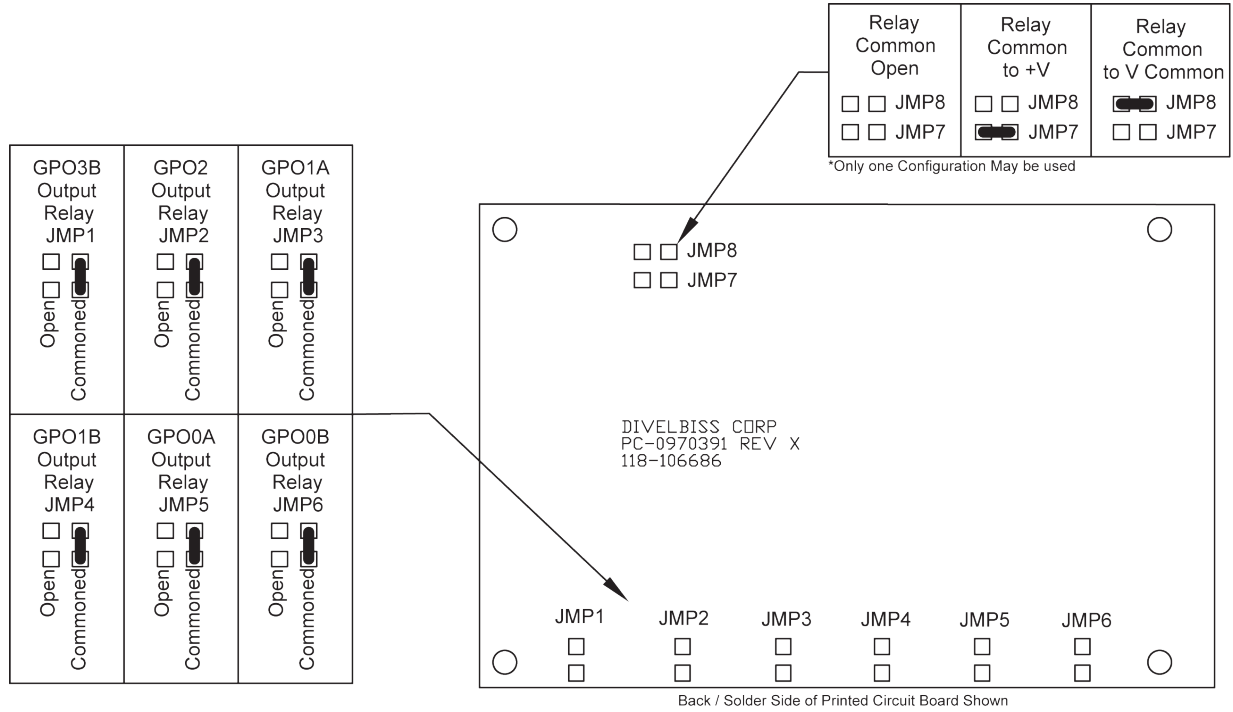
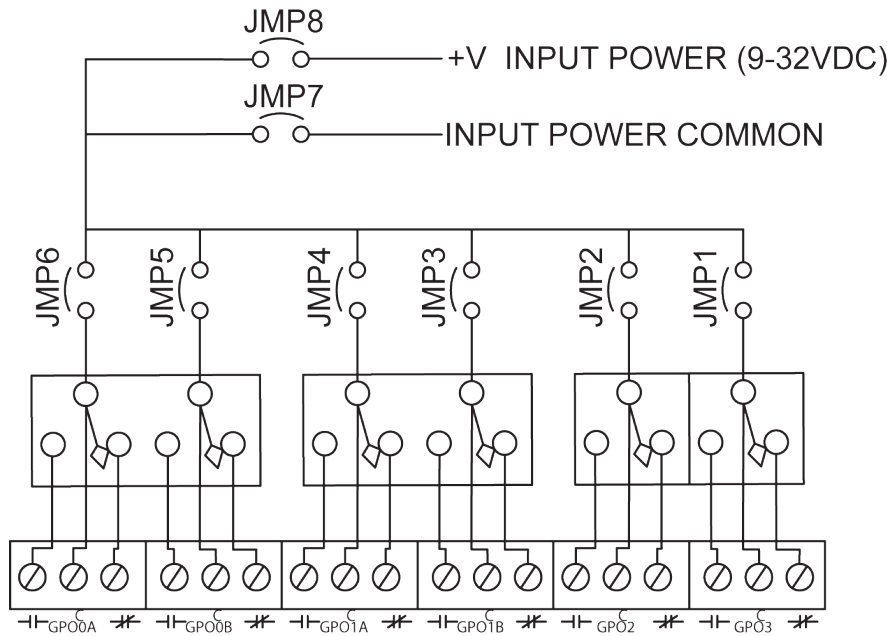

Figure 2.8 - Optional Solder Jumper Identification
Figure 2.9 - Optional Solder Jumper Schematic
As previously noted, the Micro Bear comes from the factory with *Dry Contacts* on all relay outputs. These contacts can be jumpered so that their commons (C) can be connected electrically. Each output relay contact set can be individually connected to this on-board bus. On the solder-side of the Micro Bear (back side), a set of jumper solder type pads is provided for each set of relay contacts (JMP1-6). Soldering a jumper between these two jumper pads will connect the output relay common (C) to the bus. Refer to Figure 2.8 for the jumper location and Figure 2.9 for the electrical representation.
In addition to being able to connect the relay commons to a bus, this bus can be electrically connected to either the +VDC Input Power or the Input Power Common. To connect the bus to the +VDC Input Power, solder a jumper between the JMP7 pads. To connect the bus to the Input Power Common, solder a jumper between the JMP8 pads. Refer to Figure 2.8 for the jumper location and Figure 2.9 for the electrical representation.